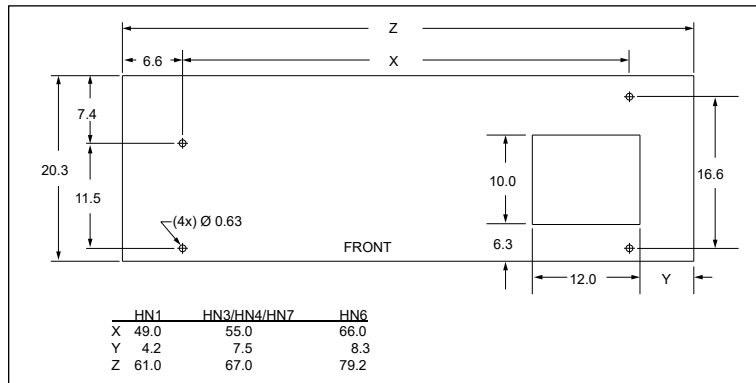

Figure 11 Mounting Hole Dimensions (in inches)
- Figure 11 shows the required conduit openings and mounting hole dimensions for entering/mounting the bottom of the CUBE. Use these dimensions when designing the pad.